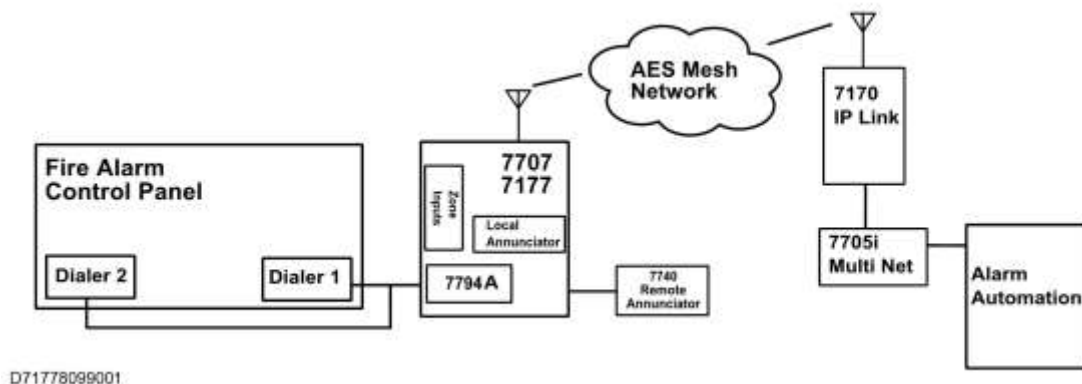
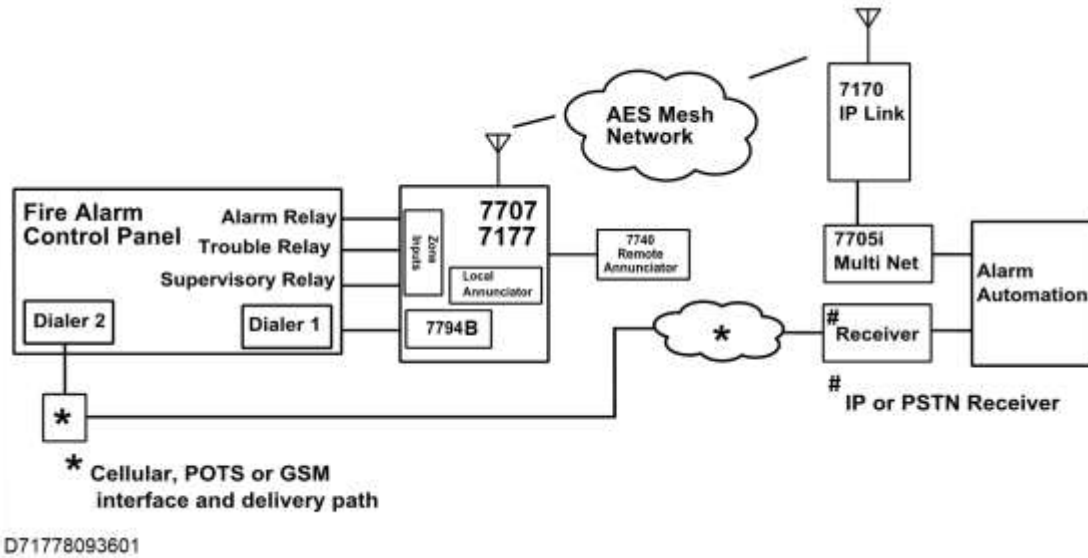
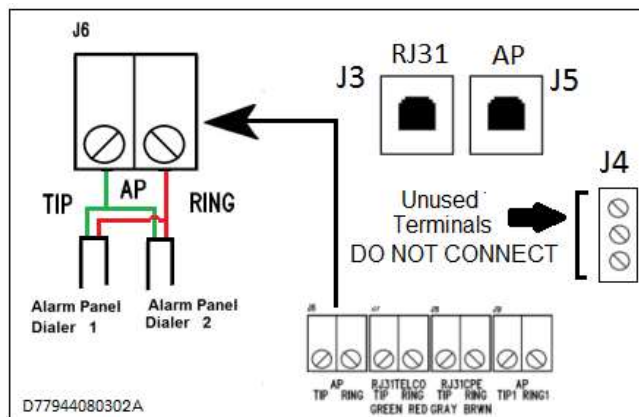

Figure 2. Primary Communications Interface Using FACP Dialers
Figure 3. Primary and Secondary Communications Interface
Figure 4. 7794A-to-FACP Connections
Note: The 7794A can provide voltage to both telephone line connections if they are connected together in parallel with TIP to TIP and RING to RING as shown in Figure 2 on page 11 and Figure 4 on page 12.
When mounted in a subscriber enclosure and connected to the Fire Alarm Control Panel dialer, the 7794A delivers alarm messages to the central monitoring station as shown in Figure 2. The 7794A is supervised by the 7707 or 7177 Subscriber, which continuously monitors a “heartbeat” signal from the 7794A. In this configuration no Zone inputs are connected from the FACP to the 7794A.
When mounted in a subscriber enclosure and connected to the Fire Alarm Control Panel dialer, the 7794A delivers alarm messages to the central monitoring station as shown in Figure 2 and Figure 3.
Figure 3 shows a Primary Interface using a FACP Dialer and a Secondary interface using a second FACP dialer and a Diverse Technology connection such as POTS, GSM or TCP/IP.
2. Connect FACP Dialer 1 and Dialer 2 TIP wire to J6 terminal block labeled **AP TIP** (see Figure 4).
3. Connect FACP Dialer 1 and Dialer 2 RING wire to the J6 terminal block labeled **AP RING** (see Figure 4).